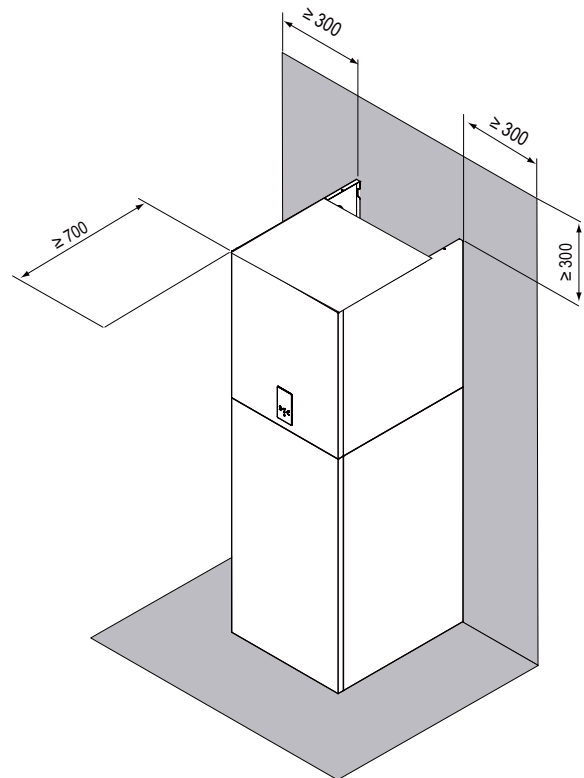

fig. 8 - minimum operating area for indoor unit
- The space around the unit is adequate for serving, see fig. 8.